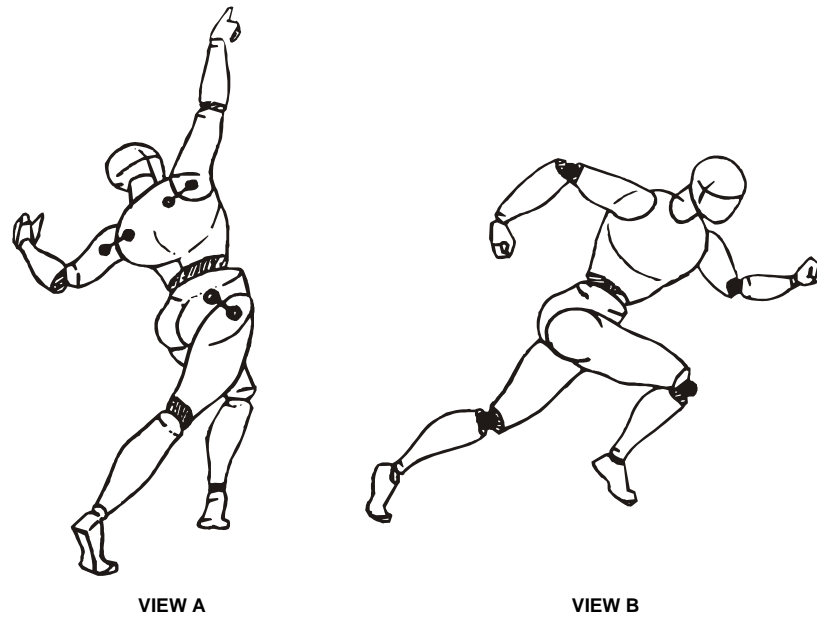

Figure K-10. Joints.
(1) The ball and socket joint (Figure K-10, View A) is extremely flexible. The shoulders and hips have this type of joint, which allow rotation in practically any direction. The wrist and ankle permit a similar rotary movement, although they are not ball and socket joints.
(2) The hinge joints at the elbow and knee work like a door hinge. They allow the forearm and lower leg to bend and straighten. (See Figure K-10, View B.)